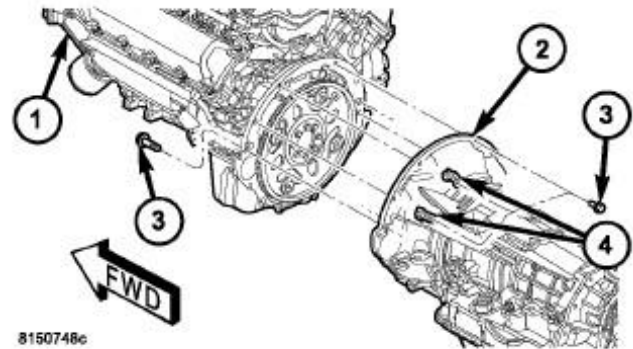

Figure 33 – Engine to Transmission Bolts
(Figure 33).
9. Carefully work transmission (2) and torque converter assembly forward onto the engine (1) block dowels (Figure 33).